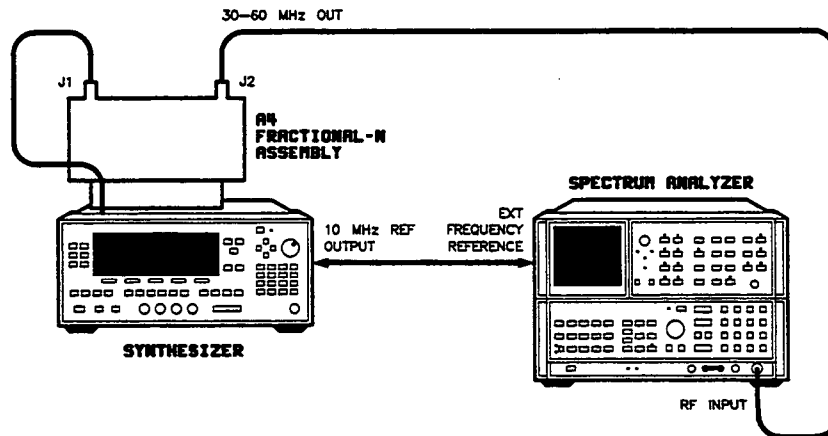

Figure 3-5. Fractional-N Reference and API Spur Adjustment Setup
1. With the A4 assembly on an analog extender board, connect the equipment as shown in figure 3-5. Preset the instruments, and let them warm up for at least one hour.